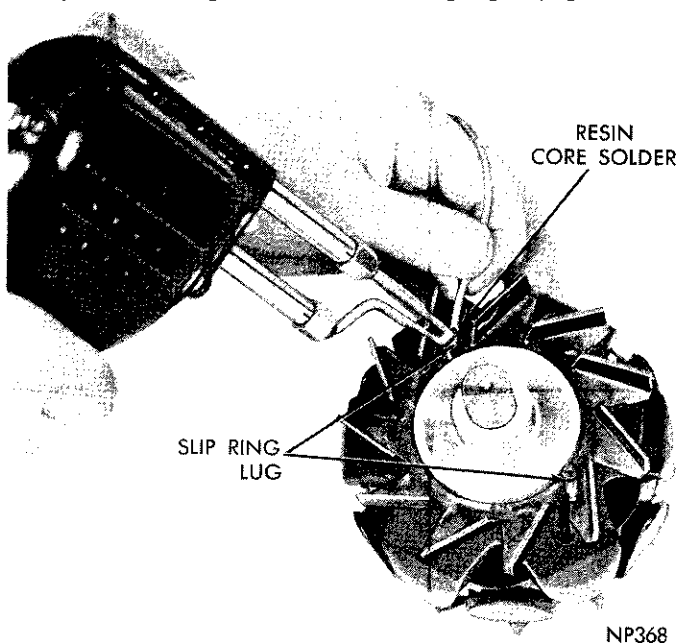

Fig. 26—Soldering Field Coil Leads
- (k) Coil each field lead wire around the slip ring lug, starting first wrap against shoulder of lug and winding outward. Solder with resin core solder (Fig. 26).